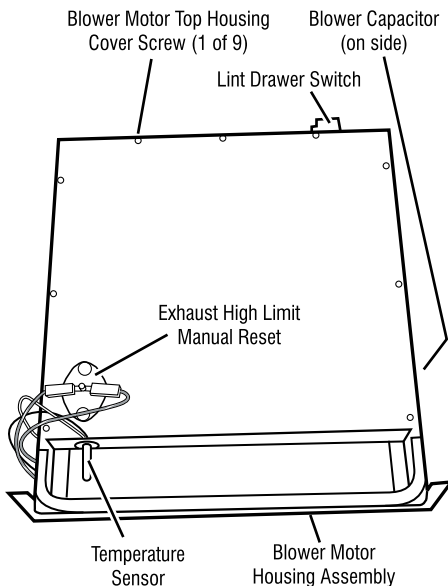

Figure 11. Blower motor components.
The blower assembly includes the temperature sensor, exhaust high limit, lint drawer switch, and blower motor. See Figure 11.
- c) Pull the blower motor housing assembly far enough forward so you can access the lint drawer switch. See Figure 11.